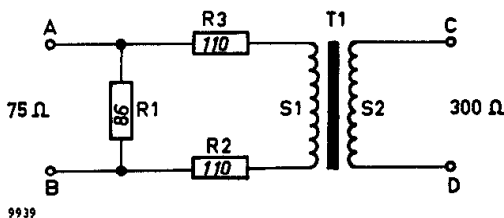

Fig. 27. Impedance transformer PM 9532 B
**Principle** – The impedance transformation can generally be obtained with a transformer having a suitable turns ratio, but in this case the frequency range is large and so is the effect of stray capacity etc.; therefore a ferrite-cored transformer with a turns ratio of unity is employed. The resistance network R1, R2 and R3 (Fig. 27) not only provides impedance matching but R2 and R3 are proportioned such that the resistances to